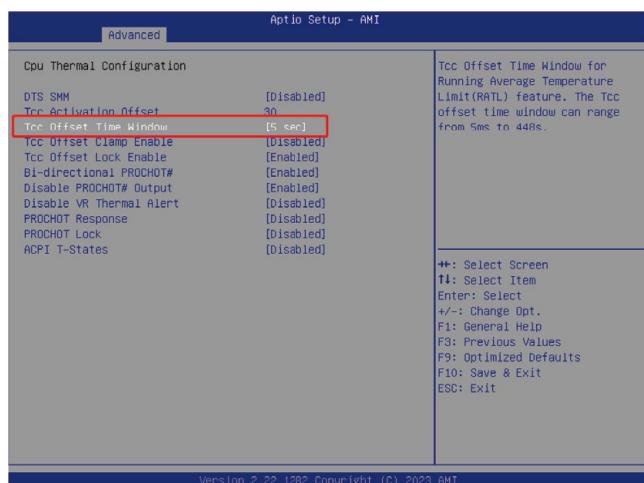
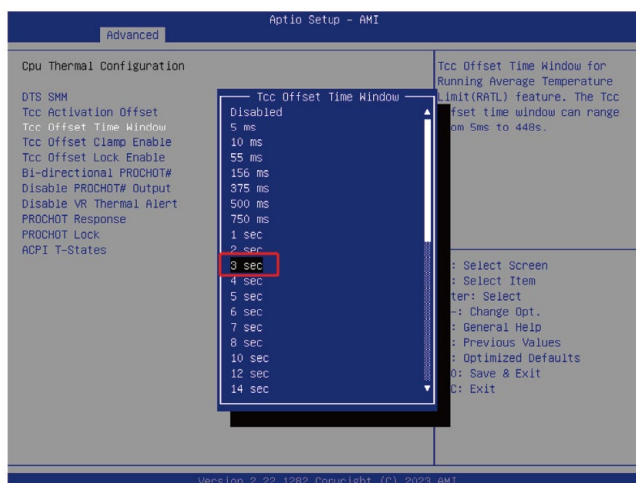

Figure 2-9-7
Figure 2-9-8
⑥ Press the ↓ key to select the Tcc Offset Time Window item, the default value is 5sec (Figure 2-9-7), and the value can be changed to 3sec. Press Enter to select this option. Figure 2-9-8.